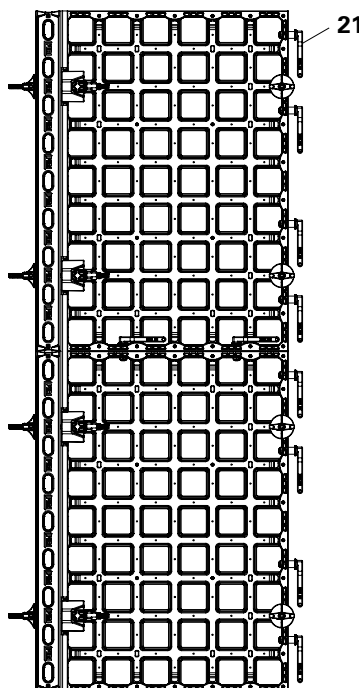

Fig. B9.01b
Connect the stopend formwork to the following formwork using 4 DUO couplers (21) for each DP 135 x 90 panel (11.4). (Fig. B9.01b)